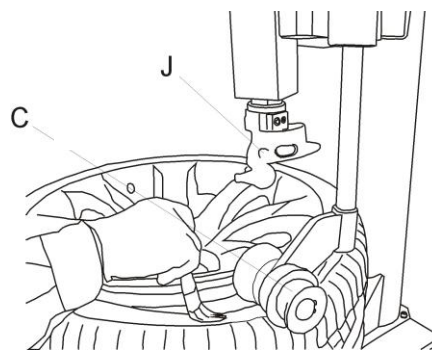

Fig 9
- 1. Press tyre with right pressing roller C,G to a position 3cm lower than rim edge, lubricate tyre bead, rotate turntable, lift roller C,G. (Fig 9)**